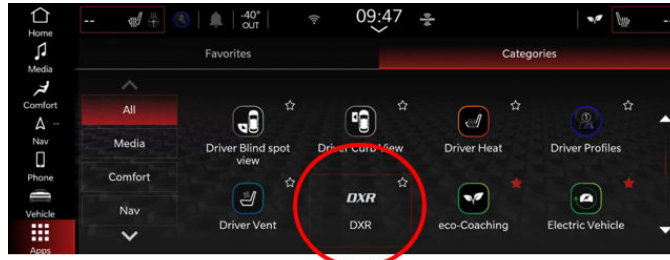

Fig. 2
- 5. Locate the DXR tile and select it Fig. 2.